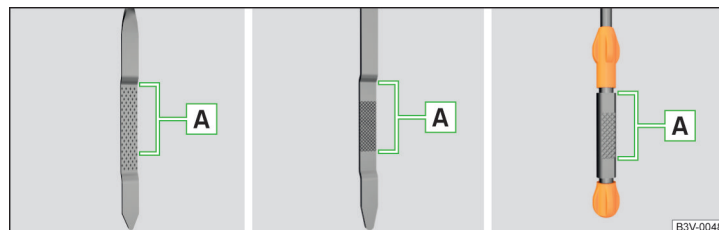

Fig. 318 Dipstick variants
The oil level must be in range **A** » Fig. 318. If the oil level is below the range **A**, refill the oil. ▶
- The oil level must never fall outside range **A** » Fig. 318 - otherwise there is a risk of damaging the engine and the exhaust system.